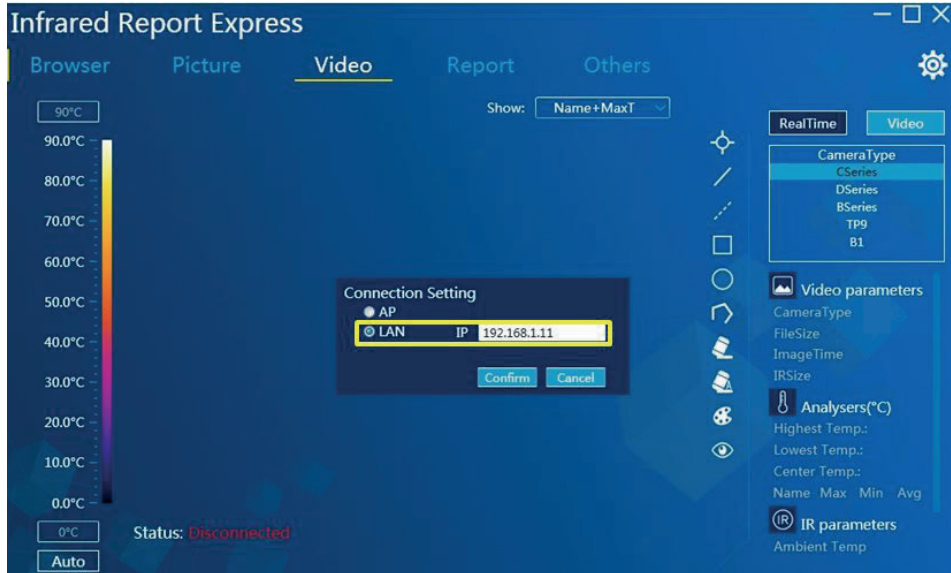

Figure 3-36
3. Utilize the network cable equipment to connect the PC reliably and click the device LAN shortcut **LAN** to open the network connection function of the device. Open the infrared analysis software to select “C Series” in the model selection area, select “LAN” in the “Connection Settings” pop-up dialog box and input the device IP. See Figure 3-36: